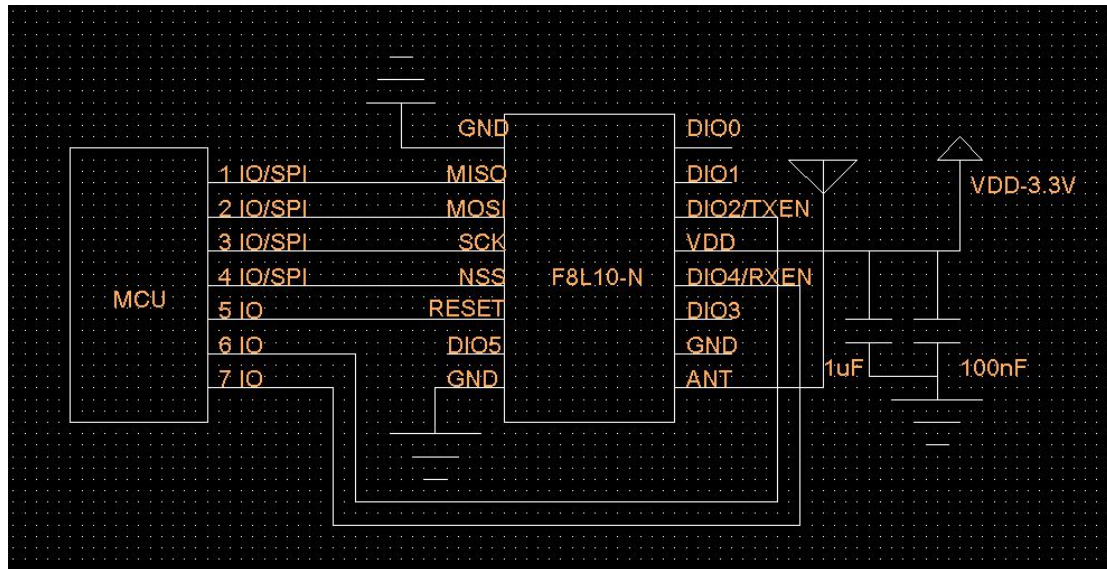

Figure 3-1 F8L10-N and client MCU hardware connection diagram
1. The F8L10-N is connected to the client MCU hardware, as shown in Figure 3-1: